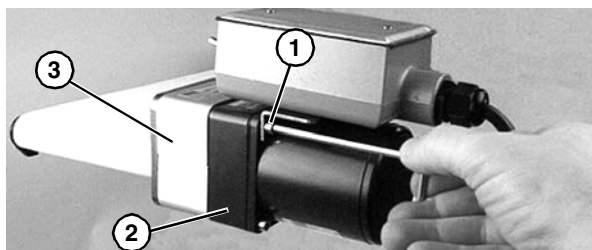

Figure 49
3. Remove four (4) screws (**Figure 49, item 1**). Remove gearmotor (**Figure 49, item 2**) and cover (**Figure 49, item 3**).